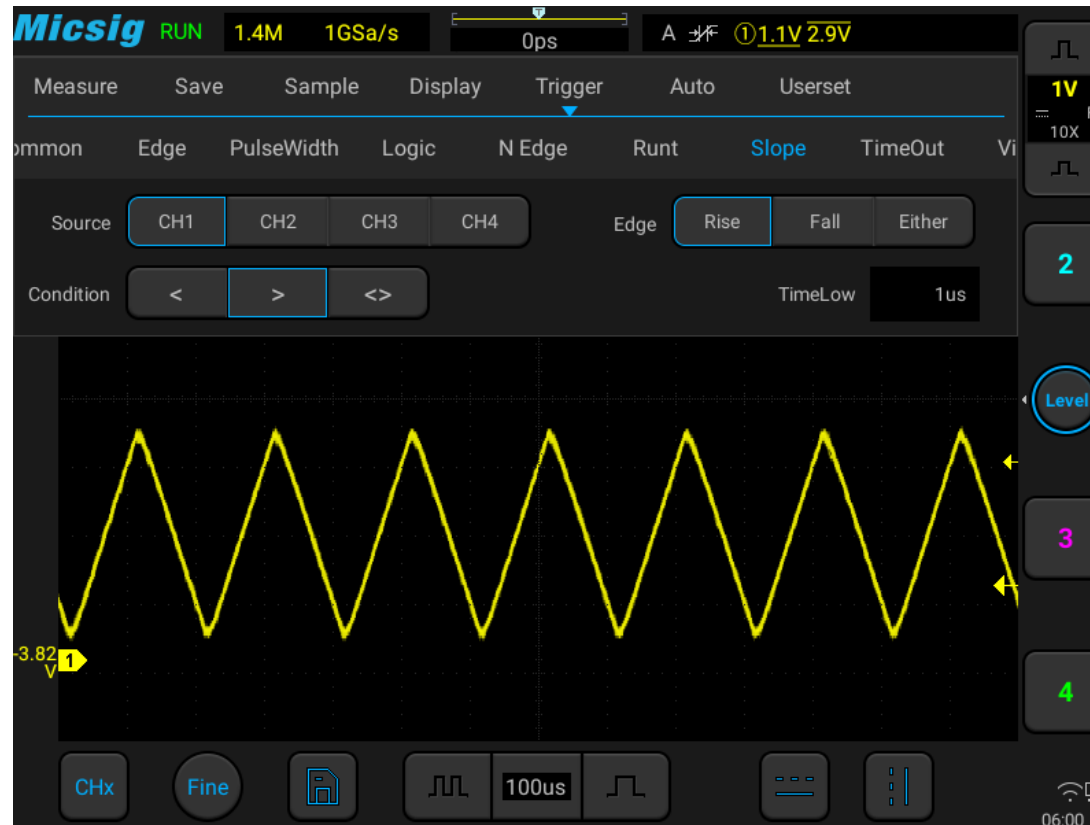

Figure 6-27 Slope Trigger Setting Menu
- 1) Tap “Trigger” on the main menu to open the trigger menu, select the slope trigger in the trigger type, and set the slope trigger as follows, as shown in Figure 6-27: